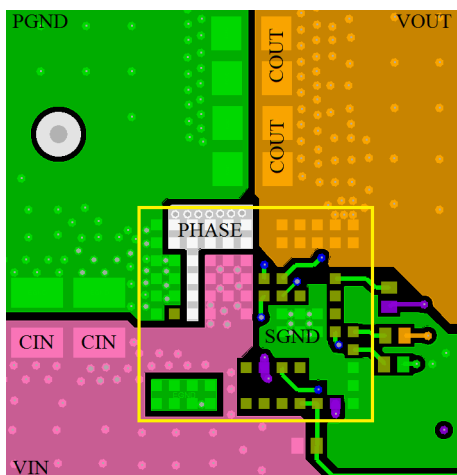

Figure 46. Layout Example - Top Layer
- Place the input capacitors and high frequency decoupling ceramic capacitors between VIN and PGND, as close to the module as possible. The loop formed by the input capacitors, VIN, and PGND must be as small as possible to minimize high frequency noise. Place the output ceramic capacitors close to VOUT. Use a copper plane to connect the output ceramic capacitors to the load to avoid any parasitic inductances and resistances. An illustrative layout example is shown in Figures 46 and 47.